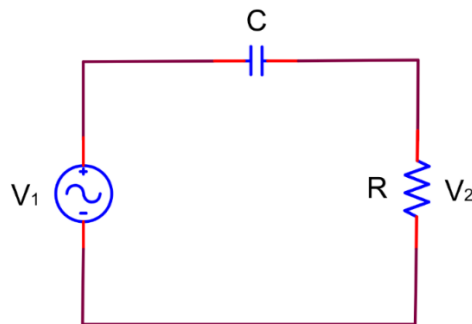

Figure 13.3
2. For the circuit in Figure 13.3: